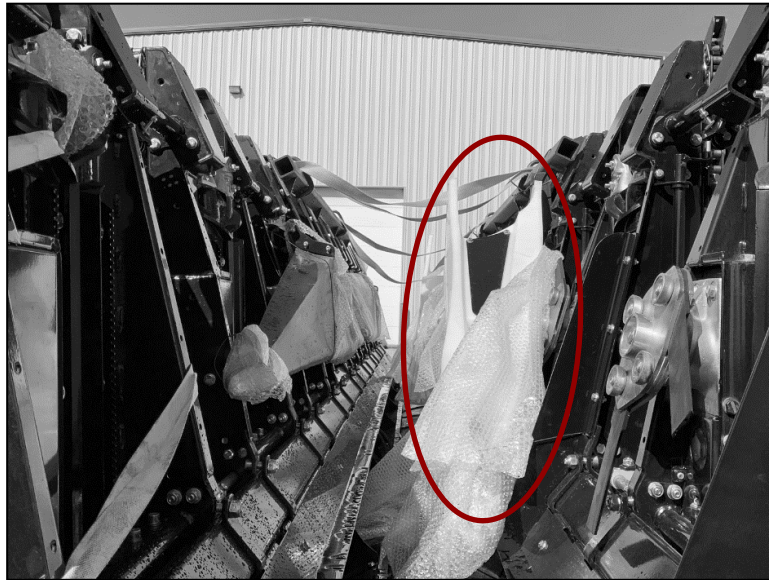

Figure 13: End snout placement on header from container shipping.
- a. For headers ordered with Tall End Dividers (TEDs) they will be secured to the back of the header along with the end snout (red circle, Figure 13). Remove these before shipping and strap separately to the truck.